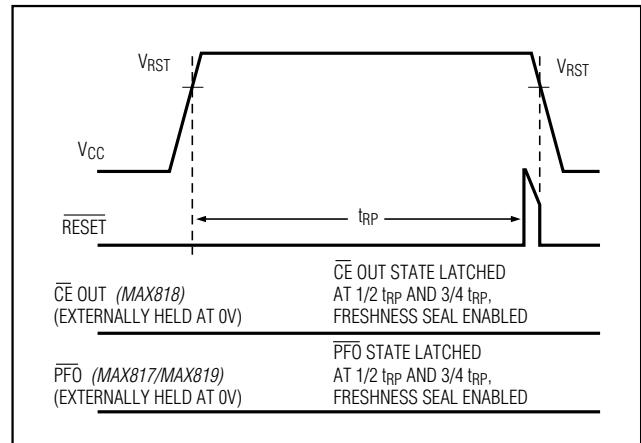

Figure 3. Battery Freshness Seal Timing
- 4) Bring V_{CC} down again (Figure 3).